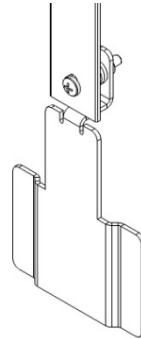

Fig. 2.9.2.3c Attaching the adhesive bracket
6. Orient the bracket as shown below, remove the tape backing and press firmly against the frame (see Fig. 2.9.2.3d).